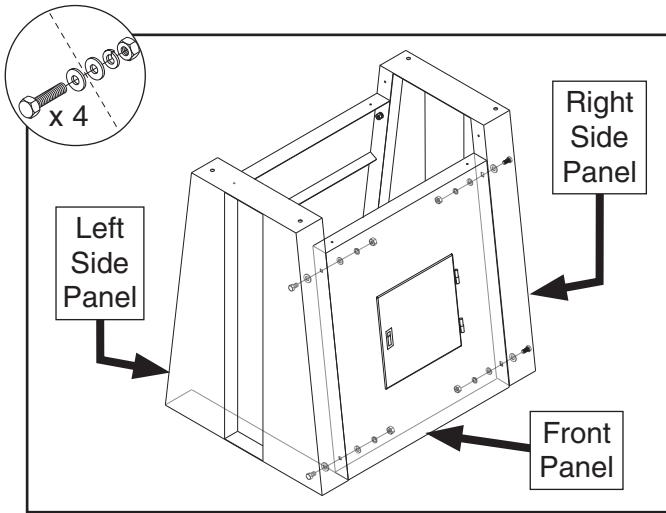

Figure 11. Front panel attached to side panels.
- Attach bottom panel to left side panel with (1) M5-.8 x 8 Phillips head screw and 5mm flat washer.
- Attach front panel to side panels with (4) M8-1.25 x 25 hex bolts, (8) 8mm flat washers, (4) 8mm lock washers, and (4) M8-1.25 hex nuts (see **Figure 11**).